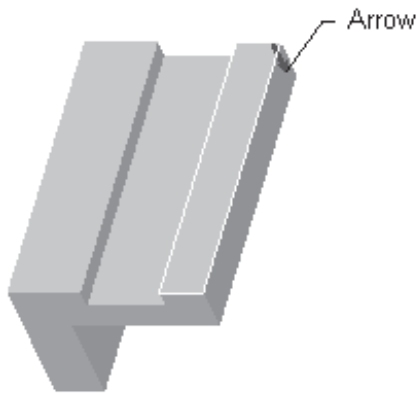

Figure 4-83 Arrow pointing from the sketching plane in the direction of feature creation
3. Select the top planar surface of the base feature shown in Figure 4-83 as the sketching plane. A red arrow that points in the direction of feature creation is displayed on the planar surface.
4. Use the **Flip** option to flip the red arrow to point in the direction shown in Figure 4-83.